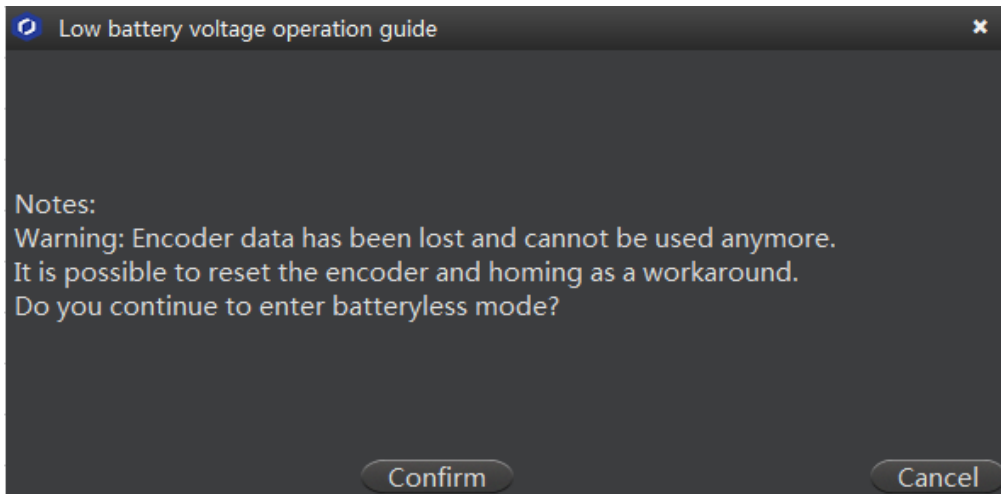

Figure 7.4 Low battery voltage operation guide (2)
Step 3 Click **Confirm**, as shown in Figure 7.4.